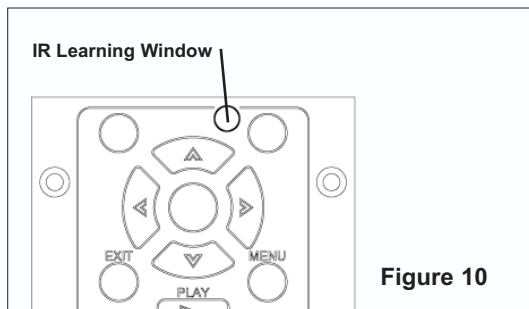

Figure 10
5. **TEST REMOTE AND IDENTIFY SWEET SPOT:** Before trying to learn any keys, position your remote control about  $\frac{1}{2}$ " from the IR learning eye (upper right of TCM+ front, indicated in the figure 10).